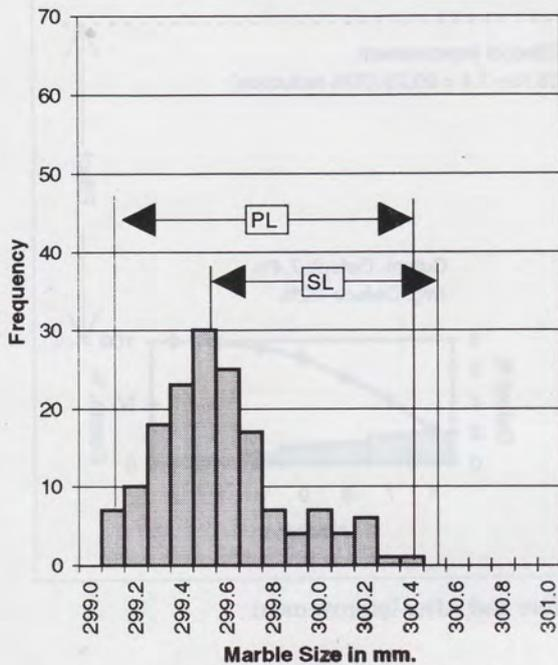

Figure 6 : Histogram I
- a) Data on a total of 150 samples of 300 mm dimension marble of two hourly production of EC # 8 during the period 2053.10.26 to 2053.11.2 (February 8~13) were collected. The analysis of the histogram subsequently drawn revealed that the mode for the 300 mm size shifted to the left, i.e., lower than the mean. The process limit ranged from +0.4 to -1.0, whereas, the specification limit desired by the market and adopted by the circle was +/- 0.5 mm. [Refer to Figure 6 : Histogram I]